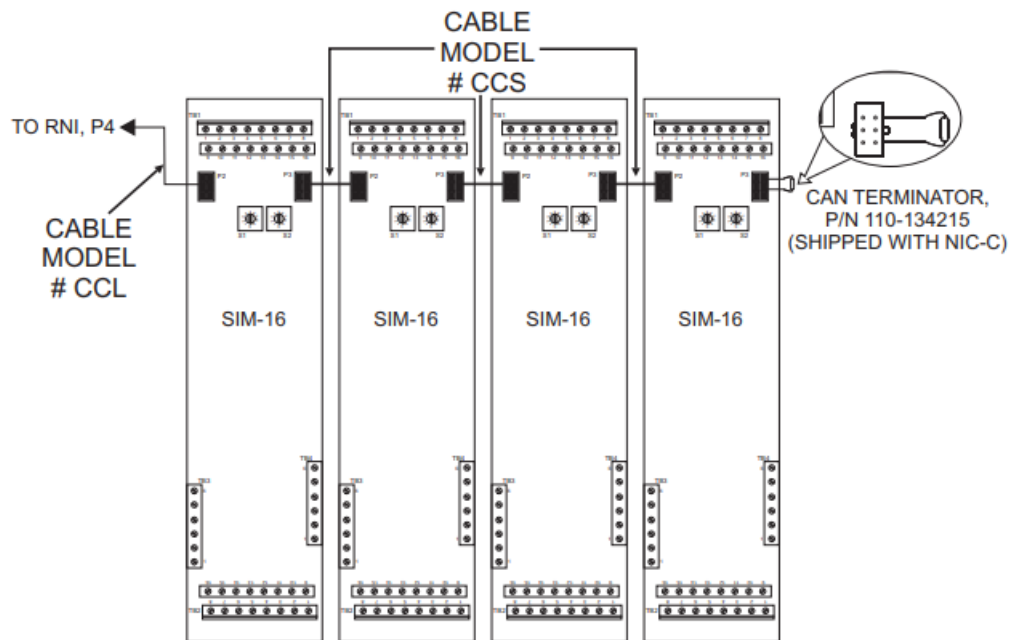

Figure 2
- The SIM-16 can be installed with or without an RNI. Connect the CAN bus and 24V as shown in Figures 2 and 3.